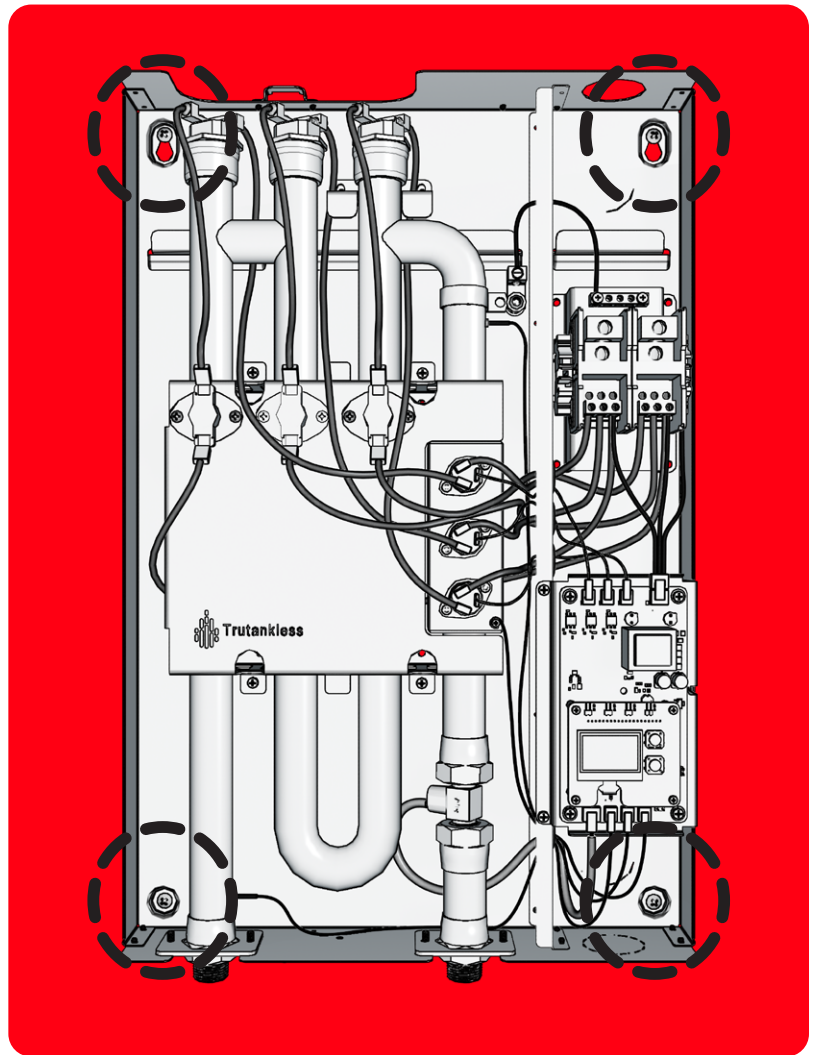

Figure 6 - Front View of **GEN3** Showing Corner Hardware Locations (1/4" TEK Screws Pictured)
After the **GEN3** is hanging on the Bracket, appropriate fasteners can be placed in the four (4) corner positions (see figure 6). Once in place, these fasteners will ensure that the **GEN3** is solidly locked in both the horizontal and vertical positions and will keep the unit from being lifted off of the French-Cleat Bracket.